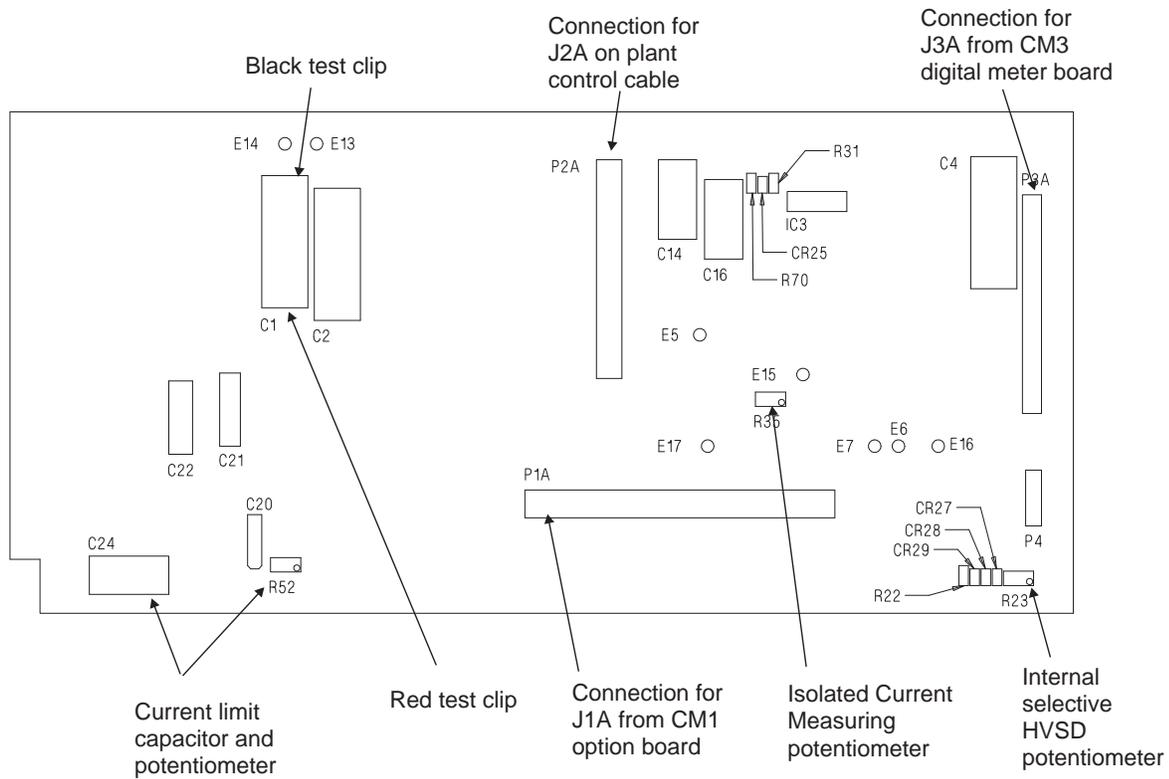

Figure 6-3: CM2 Control Board Showing Test Clip Connections and Other Component Detail
2. Strap a short across capacitor **C24** on **CM2**, see Figure 6-3.